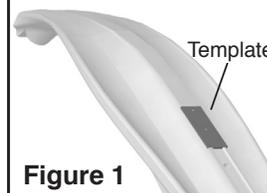

Figure 1
- 2) Flip ski over and set aluminum drill template over the keel so the tab locks into the wear bar recess. (Figure 1)